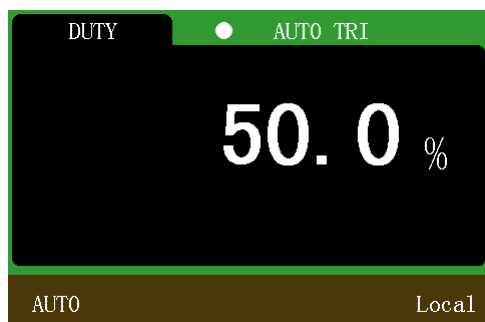

Figure 4-25 Measurement interface
1. Press to select the duty cycle measurement function. The measurement interface is shown in Figure 4-25.